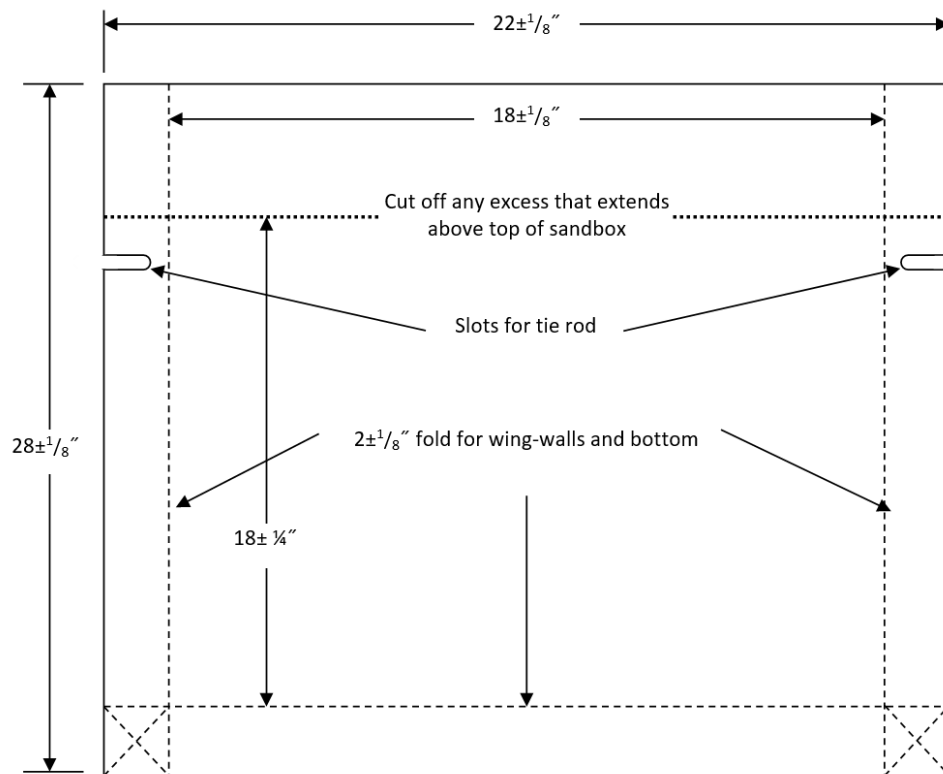

Figure 8: Dimensions of the poster board wall facing (not to scale)
- Facing – One piece of poster board. See Figure 8 for dimensions.
- a) **Reinforcement Fabrication Stage** – Each team will be provided with a single sheet of 60 lb kraft paper approximately 24 in × 24 in. The team must fabricate all their reinforcing elements from this sheet using authorized construction tools. Fifteen (15) minutes will be allotted for this stage. Teams will be penalized for time exceeding the time limit. After all reinforcing elements are fabricated, excess material will be disposed of and the judges will weigh the reinforcing elements to the nearest 0.01 grams.
- b) **Wall Assembly Stage** – After each team's reinforcing elements have been fabricated and weighed, the team will be provided with a sheet of poster board (22 in × 28 in) and a roll of packing tape. The team must assemble their wall using these materials and authorized construction tools. Dimensions for the wall facing area shown in Figure 8.